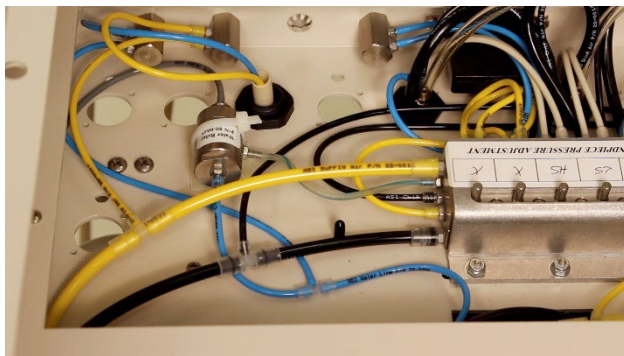

Fig. 1 Locate Water Relay
- 3 Open the cover to the delivery system according to your delivery system type and locate the water relay valve near the input side of the control block. (Fig.1)